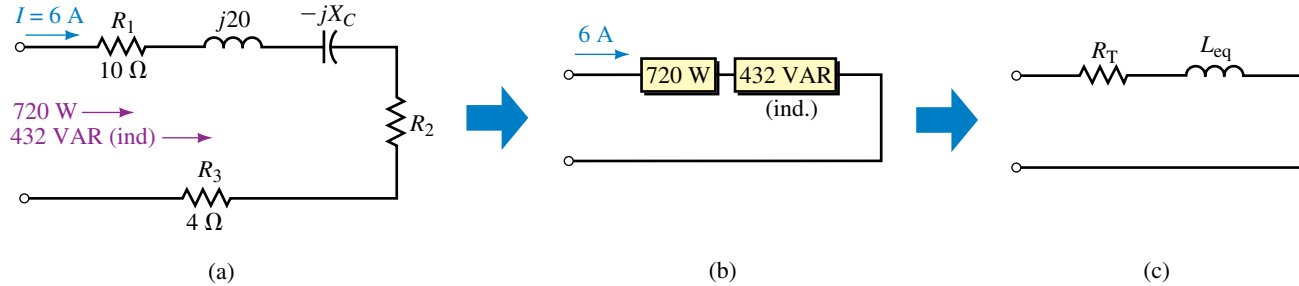

FIGURE 17-41
15. For Figure 17-41, $\omega = 10 \text{ rad/s}$. Determine